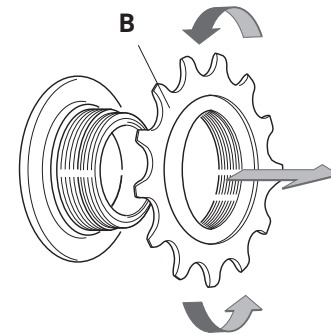

Fig. 11
- Remove the fixed sprocket (B - Fig. 11) from the hub body thread, turning it anticlockwise.